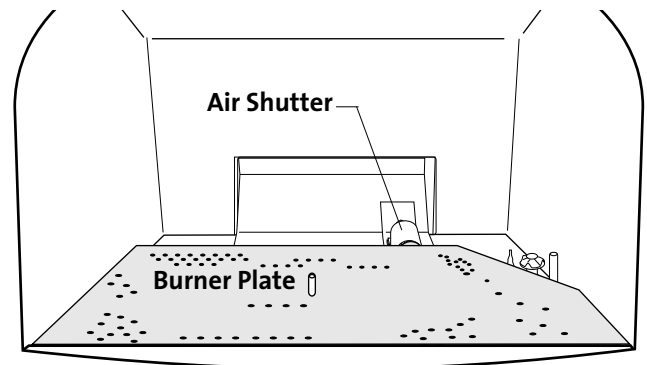

Figure 22. Remove the Air Shutter and Burner as a unit.
7. Lift out the Burner Plate: NOTE: There are no screws securing the Burner to the floor of the firebox. Pull the Air Shutter forward and lift the burner together with shutter up and out of the stove as a unit. See fig. 22.